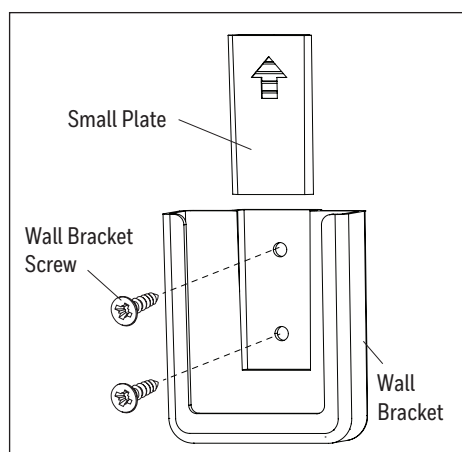

Figure 5.8
8. Remote control comes equipped with a wall bracket. If you wish to install the wall bracket, remove the small plate to expose the screw holes. Insert wall brackets screws through holes and into wall, then cover with the previously removed small plate. The remote can be stored in the wall bracket for easy access (Figure 5.8).